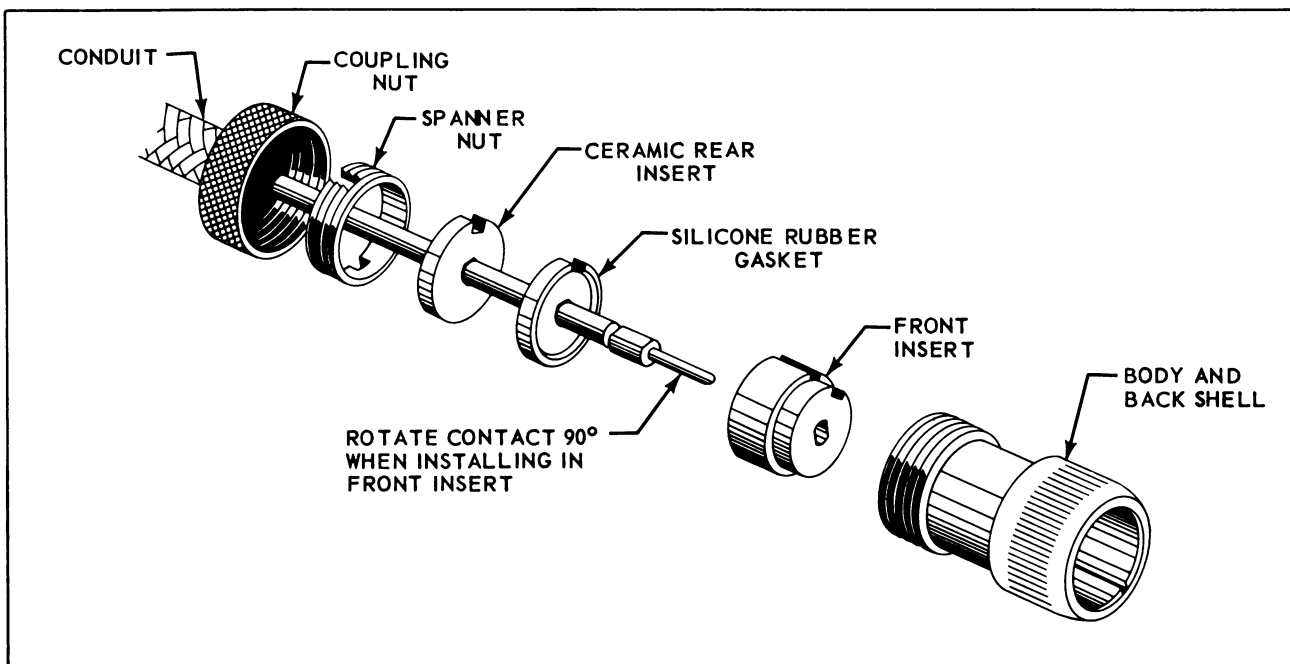

Figure 3-46. Installation of Amphenol Fireproof Connector
a. Use spanner wrench to remove spanner nut. See Figure 3-46.